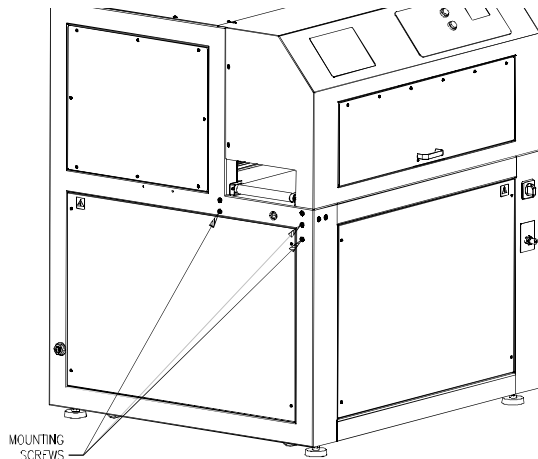
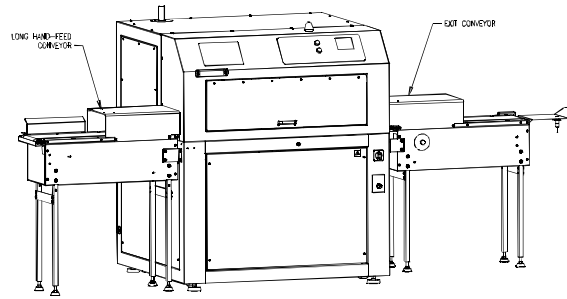

Figure 2-18. Long Hand Feed Mounting
Figure 2-19. Example Stand-Alone Config.
1. Remove (3) sets of screws and washers fastened to the center of the door on the left-hand side of the trimmer as shown in Figure 2-18. Save them for later use.
3. Move the hand-feed conveyor to the left-hand side of the trimmer such that the slots in the conveyor mounting brackets line up with the holes in the Trimmer's left-hand door as shown in Figure 2-18 and Figure 2-19.